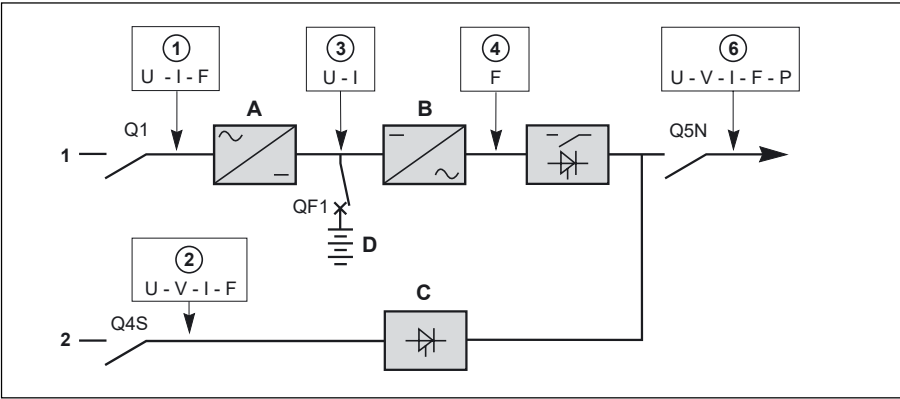

Fig. 23
The display (23) may be used to read a number of input and output measurements made at different points in the system. See, in the Appendix, figure 23.
► **normal AC source (1)**
► **bypass AC source (2)**
► **battery (3)**